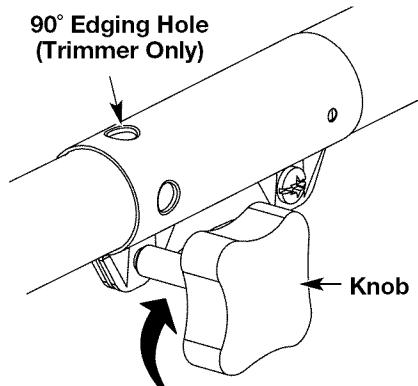

Fig. 18
3. Turn the knob clockwise to tighten (Fig. 18).
For edging (when using the line head cutting attachment with EZ-Link™ models), lock the release button of the cutting attachment into the **90° edging hole** (Fig. 18).